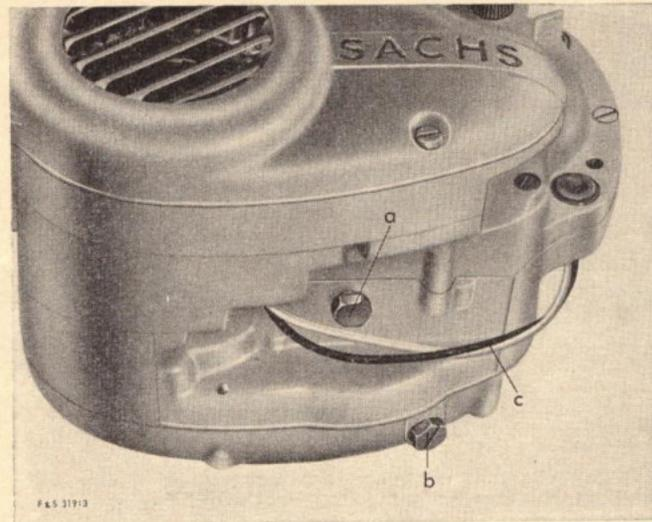
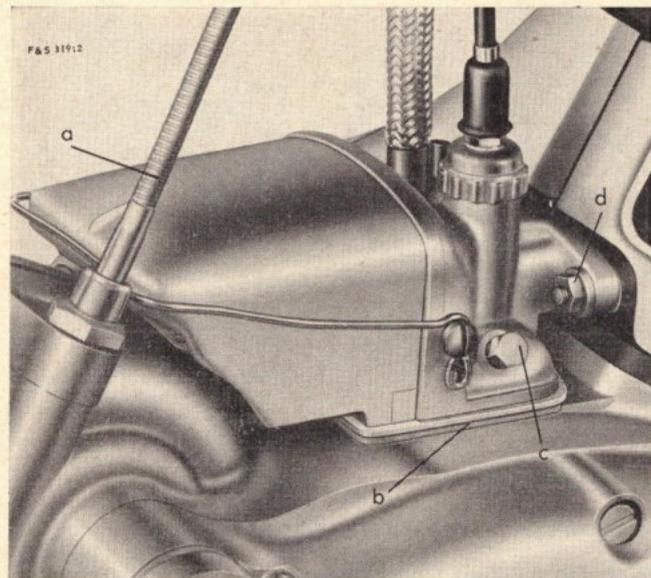

Fig. 3 Gearbox lubrication
Fig. 4
To check the oil level, let the engine run for a minute or two. Place the machine in such a position that the engine is exactly horizontal. Unscrew the oil checking plug **b** (Fig. 3). If no oil comes out of the hole, pour in SACHS Gear Oil or branded gear oil (viscosity SAE 80) until oil does emerge from the plug hole.
The oil filler opening becomes accessible on unscrewing the speedometer drive **a** (Fig. 4) and taking out the driving unit. (Alternatively, if no speedometer is fitted, the oil filler opening is closed by a screw plug).
To change the oil in the gearbox, **warm** up the engine. Place the machine in the same position as when checking the oil level. Unscrew the oil drain plug **a** and the oil checking plug **b** (Fig. 3). Let the used oil drain away. To make sure that all this oil is removed, tilt the machine backwards and forwards and from side to side. Replace and screw in the oil drain plug **a** and oil checking plug **b** (Fig. 3). Pour in 200 cc of SACHS Gear Oil or Some other branded gear oil through the oil filler opening **a** (Fig. 4).
- Undo the fixing nuts **d** (Fig. 4).